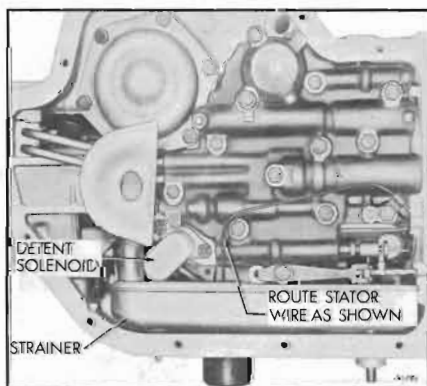

Figure 74-785
as shown in Figure 74-785.
7. Attach stator solenoid electric wire to clip. See Figure 74-785.